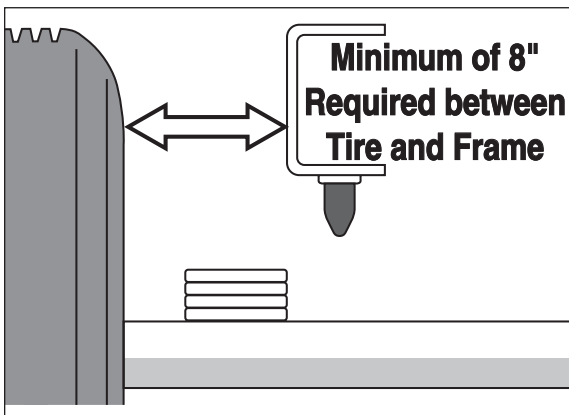

Figure 2
1. Raise the vehicle, remove the wheels, and obtain normal ride height (Figures 2 and 3).
If the vehicle has a rough and harsh ride it may be due to either too much pressure or not enough (fig. 2). Try different pressures to determine the best ride comfort.